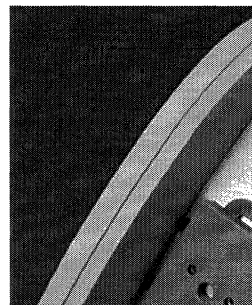

Fig. 18
- See Fig. 18 for finished endplate example.